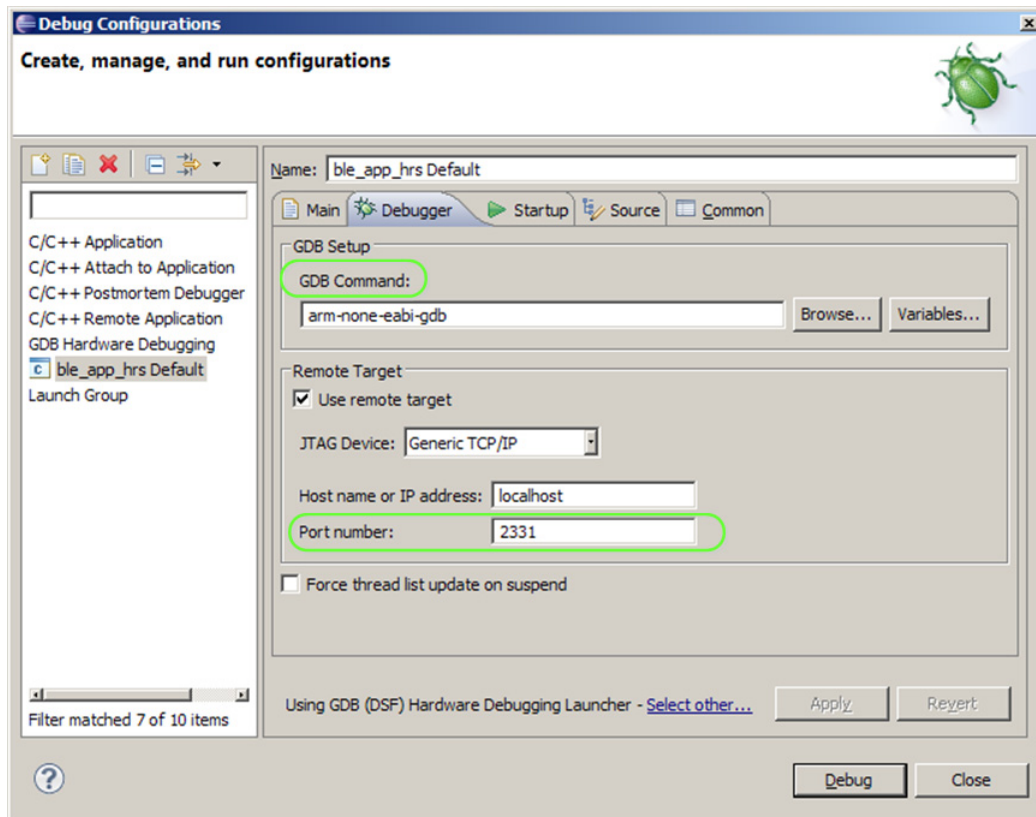

Figure 4 Entering GDB command and TCP/IP port number
10. In the Remote Target box, change the Port number to **2331** as shown in *Figure 4*.